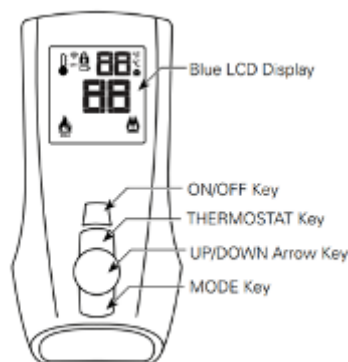
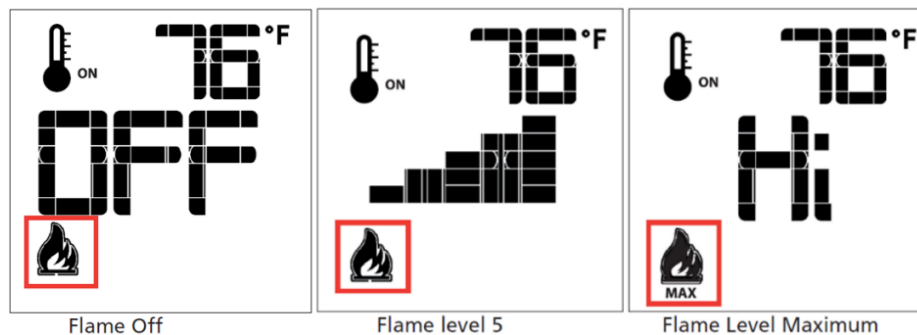
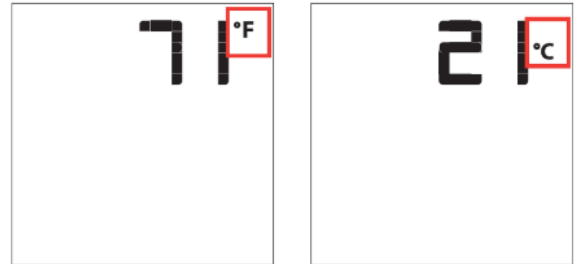
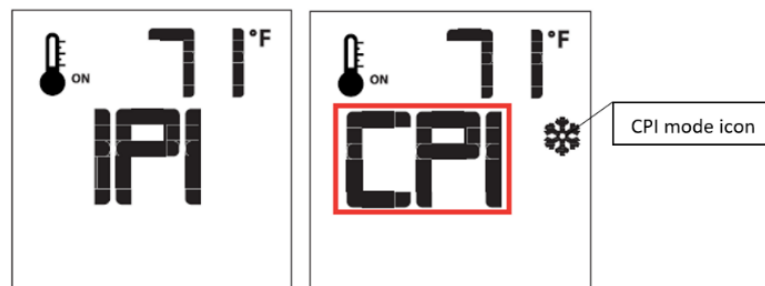

FIGURE 10
FIGURE 11
FIGURE 12
FIGURE 14
1. Insert the three (3) provided AAA batteries into the battery bay in the remote. Correctly align polarity (+/-).
3. Push the "ON" button on the remote (**Figure 10**). The control module will beep four (4) times to indicate acceptance of the remote's command. The system is now synchronized.
The system has six (6) flame levels. See (**Figure 10**) for an example. With the system on, and the flame level at the maximum in the appliance, pressing the "Down Arrow Key" once will reduce the flame height by one step until the flame is turned off. The "Up-Arrow Key" will increase the flame height each time it is pressed. If the "Up Arrow Key" is pressed while the system is on, but the flame is off, the flame will come on in the high position (**Figure 11**). A single "beep" will confirm reception of the command.
With the system in the “OFF” position, press the “**Thermostat**” Key and the “**Mode**” Key at the same time (Figure 10). Look at the LCD screen on the Remote to verify that a °C or °F is visible to the right of the Room Temperature display (Figure 12).
With the system in “OFF” position press the “**Mode**” Key (Figure 10) to index to the **CPI** mode icon. Pressing the “**UP Arrow Key**” will return to **IPI**. A single “beep” will confirm the reception of the command (Figure 14). Remote default setting is set to **IPI**.